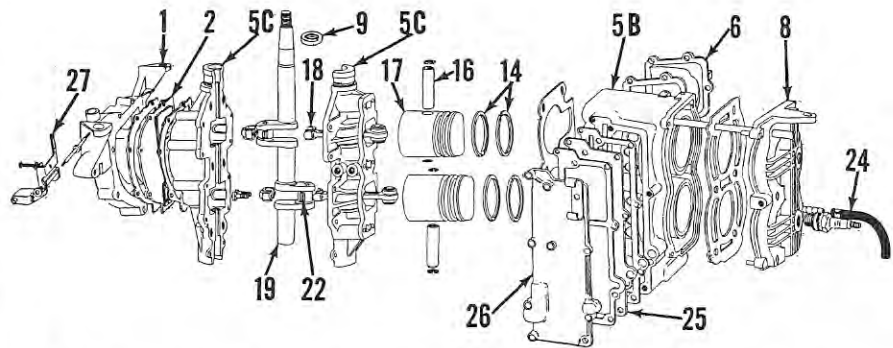

Fig. Mc31 — Exploded view of power head assembly used on 7.5 horsepower models.
7.5 Horsepower Models: Refer to Fig. Mc31. Cylinder block is separate from the split crankcase. Main bearings are all of bronze, integrally cast with the crankcase. If bearings are worn or scored, the crankcase must be renewed.